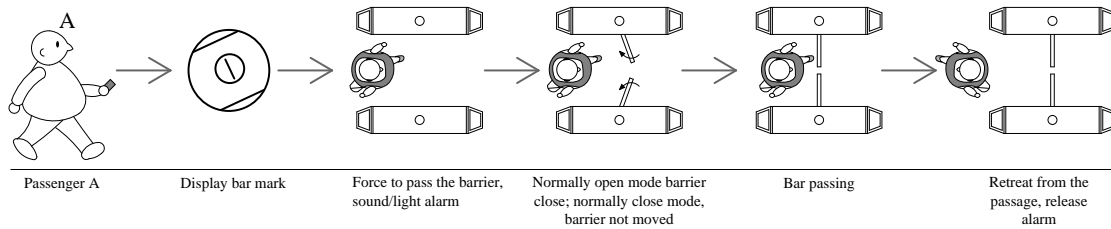

Fig.14
5) Passing bar: for a passage, it is not allowed for any passenger to pass through the passage. The process is as given in Fig.14